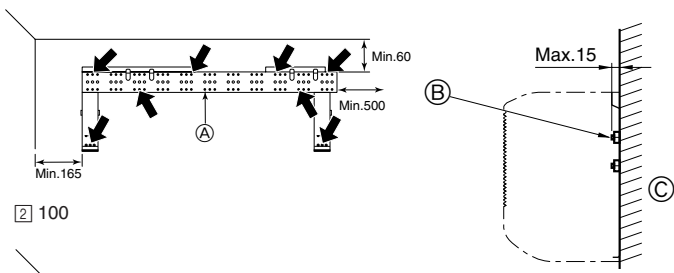

Fig. 3-5
- ▶ Secure the wall mounting fixture through its middle row of 12-mm-dia. holes using locally purchased bolts (through bolts, bolt anchor and nut anchor) of M10 or W3/8 threading. The bolt tip must not protrude by more than 15 mm from the wall surface. (Fig. 3-5)